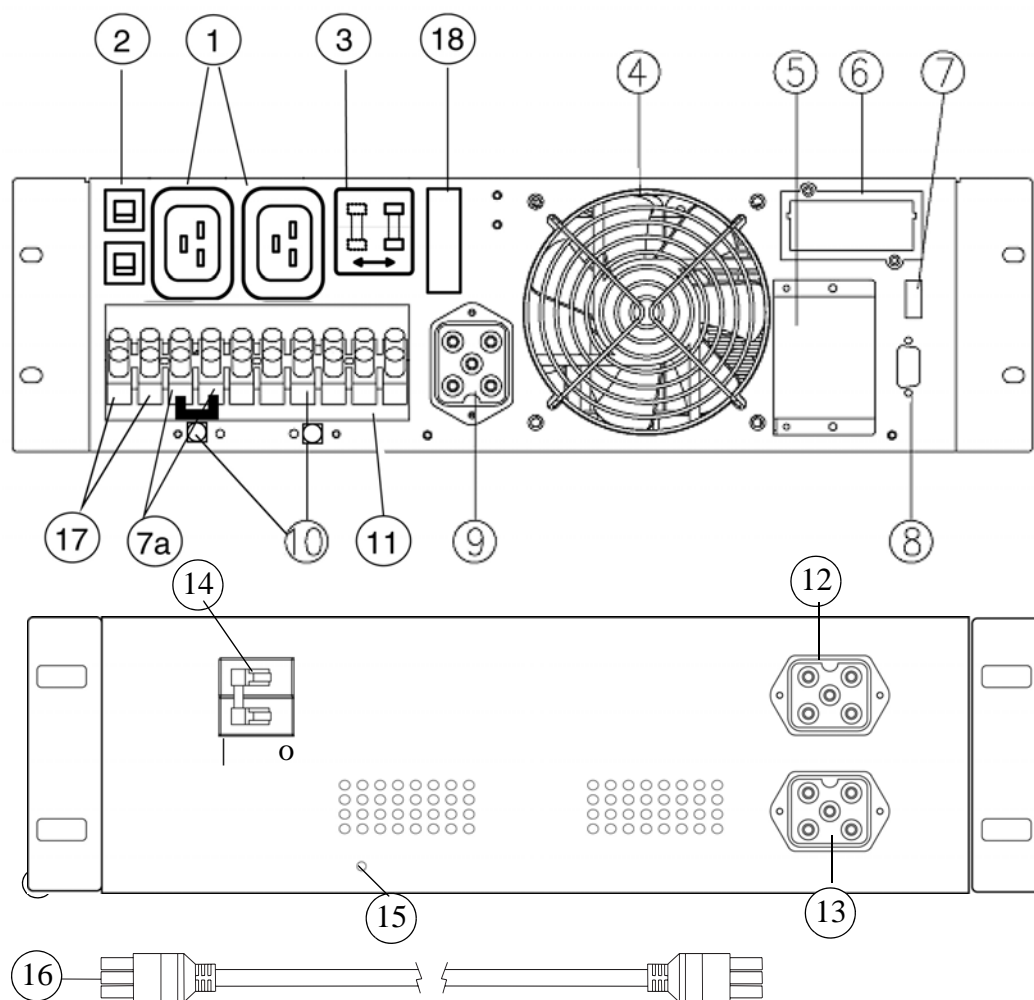

Fig. 5: Rear View Linear Plus Rack-mount UPS (top), Battery (center), and Cable (bottom)
Connect the mains supply to the input terminals of the UPS (see Fig. 5 on page 11 and Table 6 on page 9).
3. Connect loads to “Output” terminals (see Fig. 5 on page 11 and Table 6 on page 9).
4. Connect mains to the corresponding input terminals (see Fig. 5 on page 11 and Table 6 on page 9).